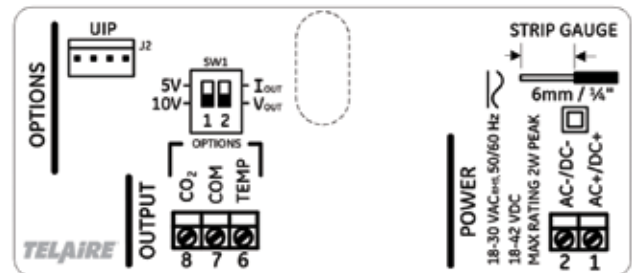

Figure 1: Internal Label
3. Select Voltage or Current output option and Voltage range (0-10 V or 0-5 V) using the SW1 as shown on the internal label (Figure 1) and Table 1.